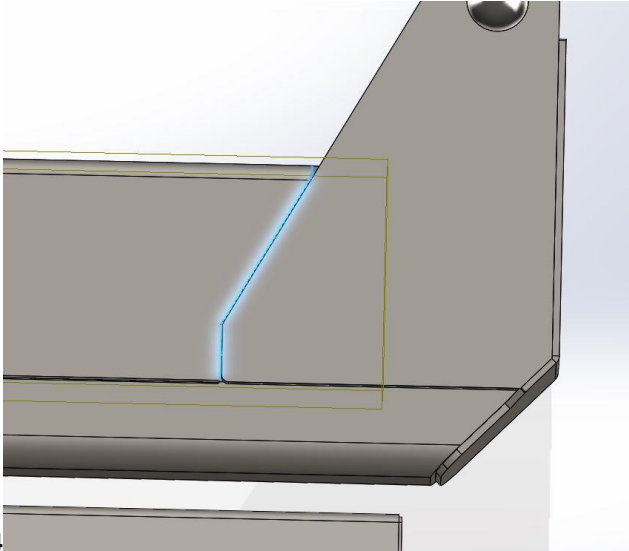

Figure 4
4. Weld at the places shown in blue, Figures 4 (both sides) and 5.